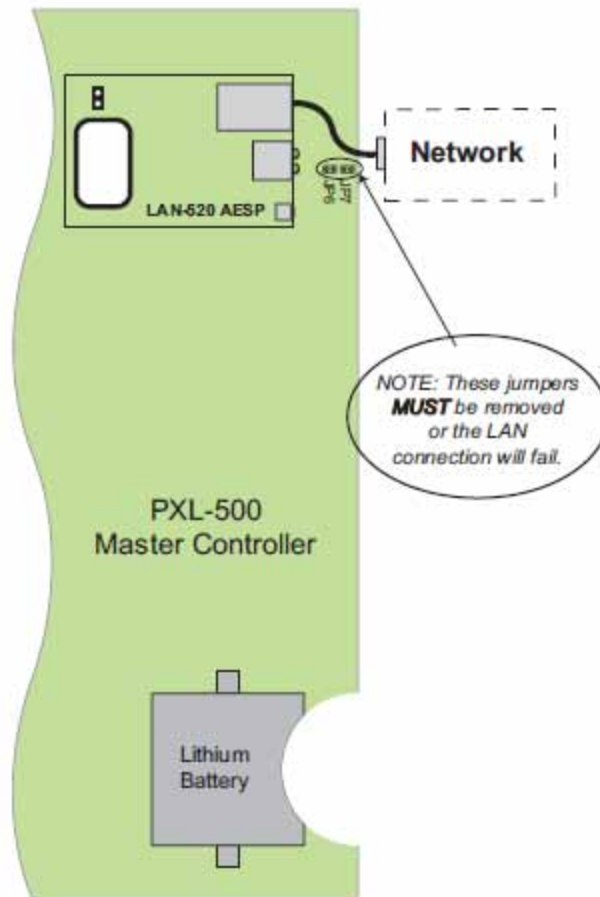

Figure 3: Installing the LAN-520 AESP on a PXL-500 Controller
3. Insert the LAN-520 AESP into the TB13 port of the PXL-500. Orient the unit as shown in Figure 3.